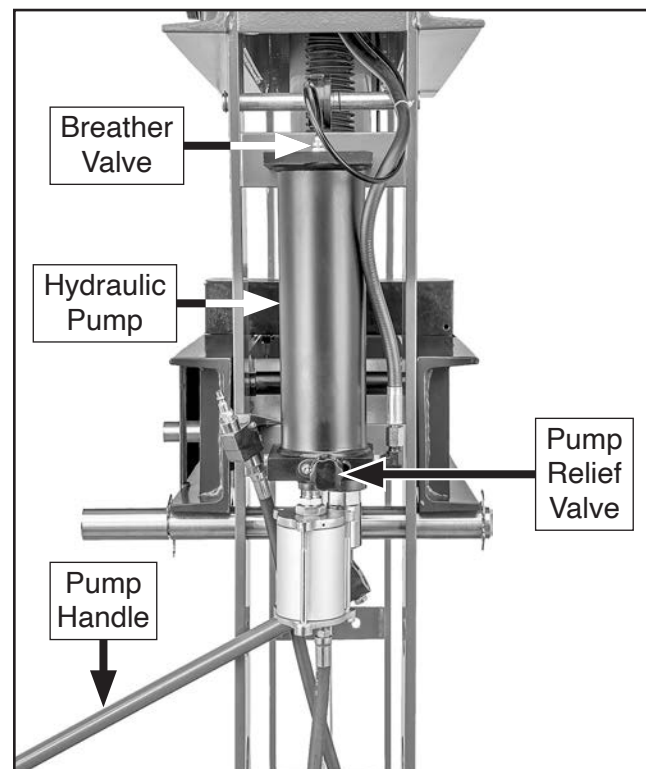

Figure 25. Location of hydraulic system components (safety guard removed for clarity).
The amount of force applied to the workpiece can be adjusted using the pump relief valve and the pump handle (see **Figure 25**).
1. Rotate pump relief valve (see **Figure 25**) as needed depending on operation: